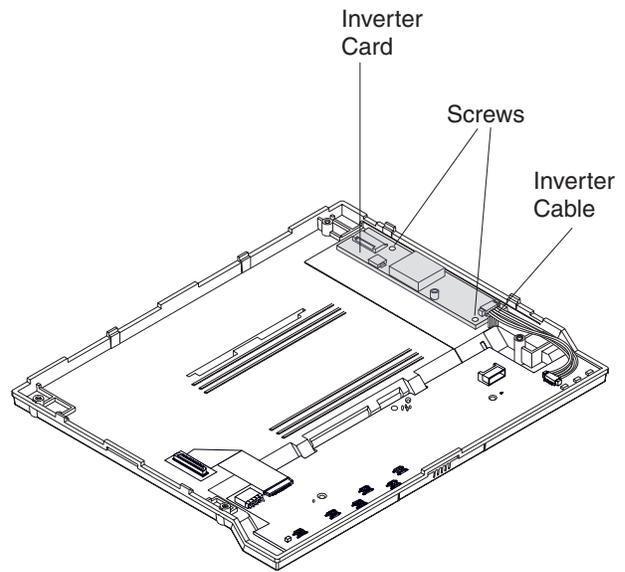

Figure 3-20. Removing the Inverter Card
- 3 Remove the inverter card. See Figure 3-20.